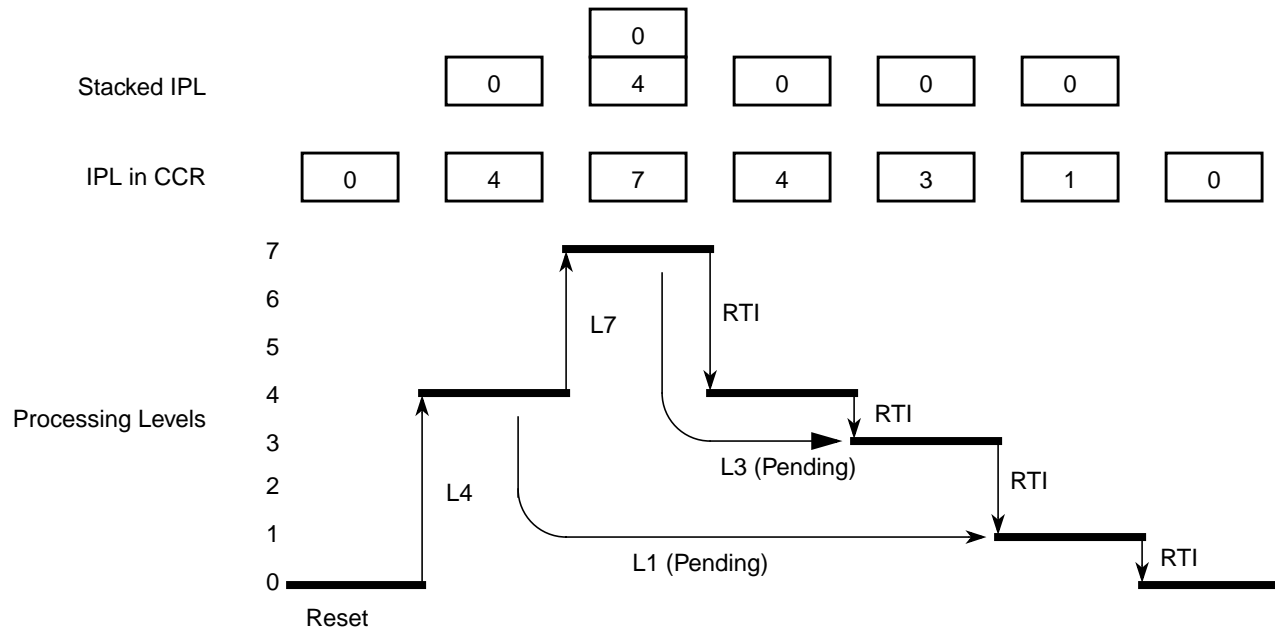

Figure 24-14. Interrupt Processing Example
- I bit maskable interrupt requests can be interrupted by an interrupt request with a higher priority, so that there can be up to seven nested I bit maskable interrupt requests at a time (refer to Figure 24-14 for an example using up to three nested interrupt requests).